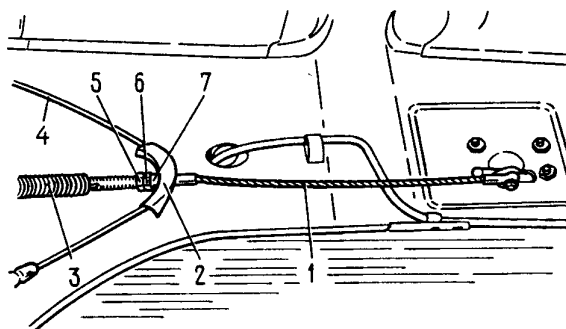

Fig. 6-4. Parking Brake Control Linkage:
- loosen locknut 5 (Fig. 6-4) of the tensioning device and keep turning in adjusting nut 6 to tension the cable until the rear wheels are braked and cannot be turned by hand;